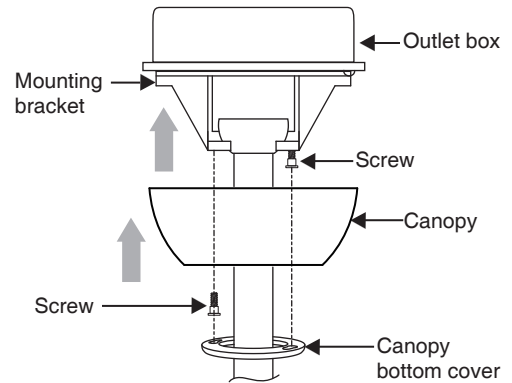

Fig. 10
2. Slide the canopy up to the mounting bracket and place the key hole on the canopy over the screw on the mounting bracket, turn the canopy until it locks in place at the narrow section of the key holes. (Fig. 10)